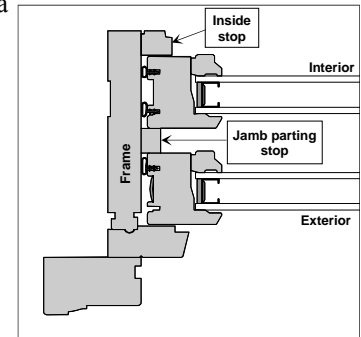

Fig. 1. Remove parting stops; horizontal cross-section; sash and jamb liners shown for reference
- 1 With a utility knife, carefully score inside stops (which run vertically on side jambs in front of lower sash) where they meet frame (fig. 1)
- 5 If present, score and remove jamb parting stops (fig. 1)